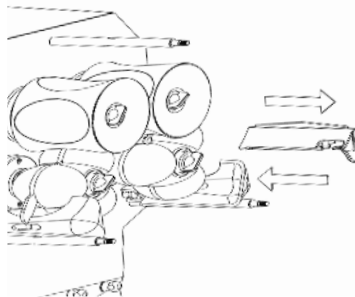

Figure 10
5- Grasp the handle of the Blade (43) and pull it towards you (Figure 10).